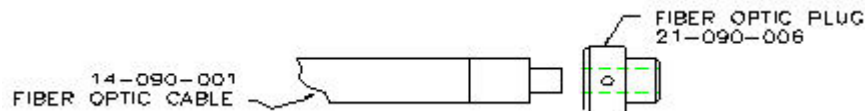

Figure 5 (The plug is used to connect the fiber optic cable to the light source)
4. Attach the small black fiber optic plug to one end of the flexible fiber light cable with a 4-40x3/16 setscrew. See **Figure 5** below.